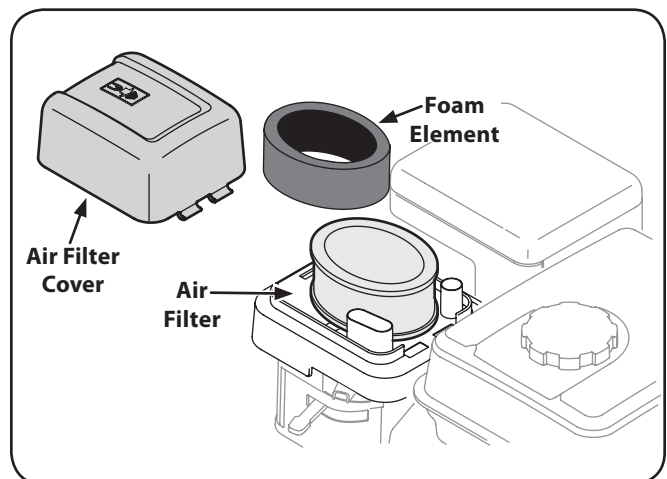

Figure 6-2
1. Press the tab on the air filter cover and lift the cover. See Fig. 6-2. Replace paper element when dirty or damaged. Clean foam element or replace when damaged.